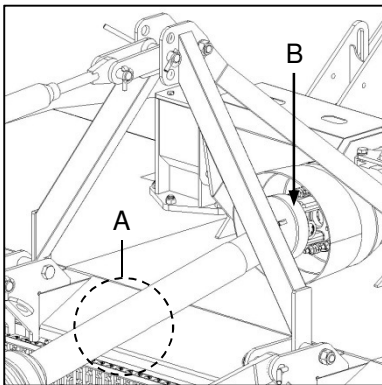

Fig. 4
- ✔ Following installation of the PTO driveshaft, lift the implement to the appropriate transport height and ensure that there is no contact between the PTO driveshaft and the implement (Fig. 4-A/5-A).
- ✔ Ensure that universal joint operating angles are not exceeded and that over-compression or over-extension of the PTO driveshaft is prevented (Fig. 4-B/5-B).
- ✔ Nadat die kragaftakkeras geïnstalleer is, lig die implement tot op die gepaste vervoerhoogte en verseker dat daar geen kontak tussen die kragaftakkeras en die implement is nie (Fig. 4-A/5-A).
- ✔ Verseker dat kruiskoppelingwerkshoeke nie oorskry word nie en maak seker dat die kragaftakkeras nie te veel saamgepers of oorverleng is nie (Fig. 4-B/5-B).